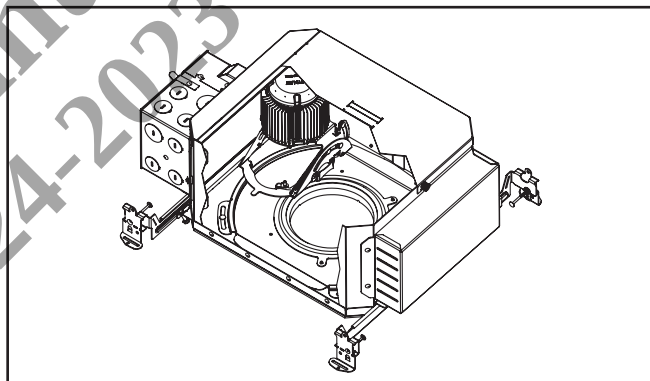

Figure 24.
6. Place the LED Mechanism aside (Figure 24.) or remove from the housing if necessary. In order to pass through the housing collar, the mechanism must be adjusted to the 45 degree tilt position.